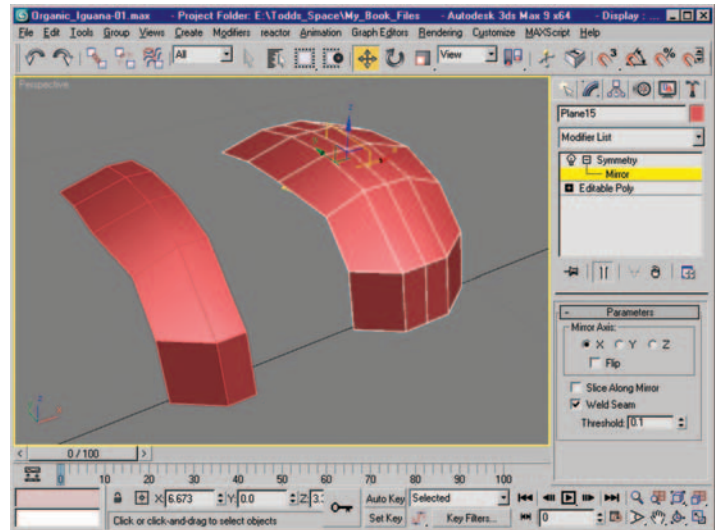

Figure 9.5 Mesh before and after adding Symmetry modifier.
5. If necessary adjust the mirror plane to create a perfectly symmetric end result (Figure 9.5).